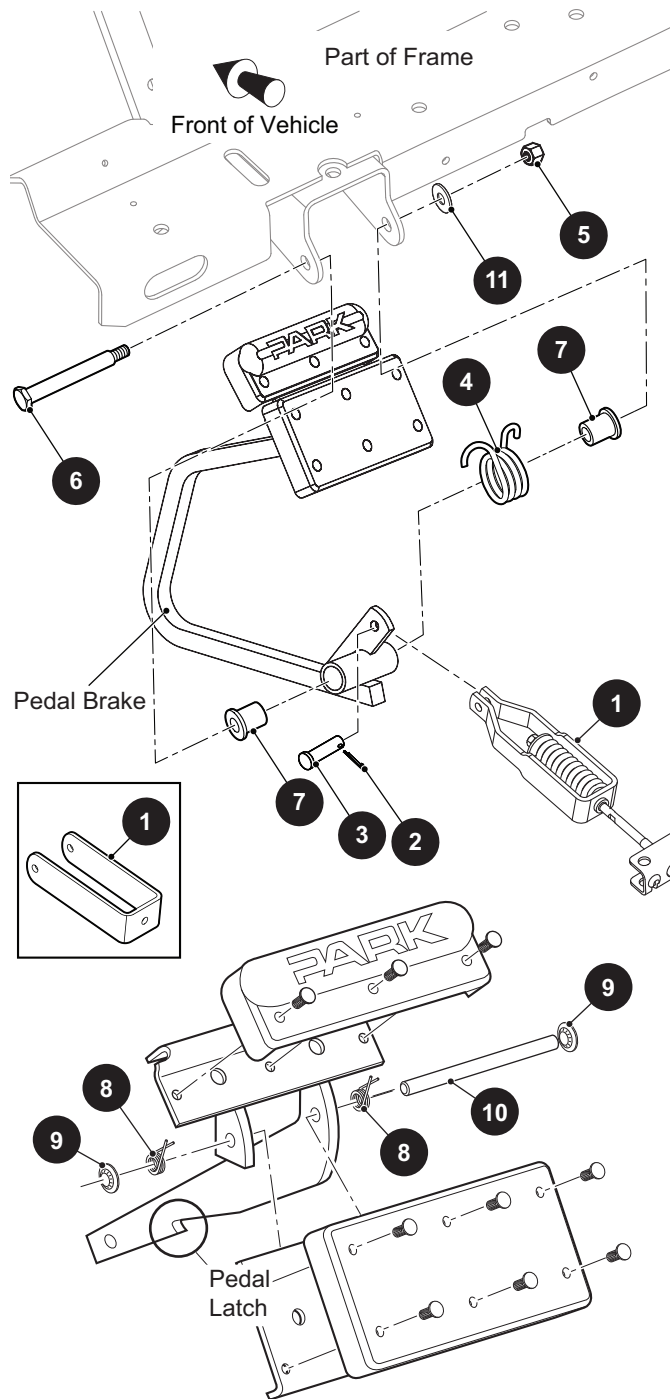

Figure 28 Brake Pedal Removal and Installation
Disconnect the compensator assembly (1) from the brake pedal by removing the cotter pin (2) and the clevis pin (3) (Figure 28).
Note the location and orientation of the two torsion springs (8) for reassembly purposes. Remove the push nut(s) (9) and pin (10) (Figure 28) and remove the parking brake pedal.